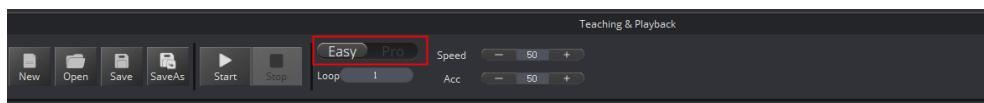

Figure 5.180 Switch advanced function
Step 1 Click **Easy** icon on the **Teaching&Playback** page, as shown in Figure 5.180.